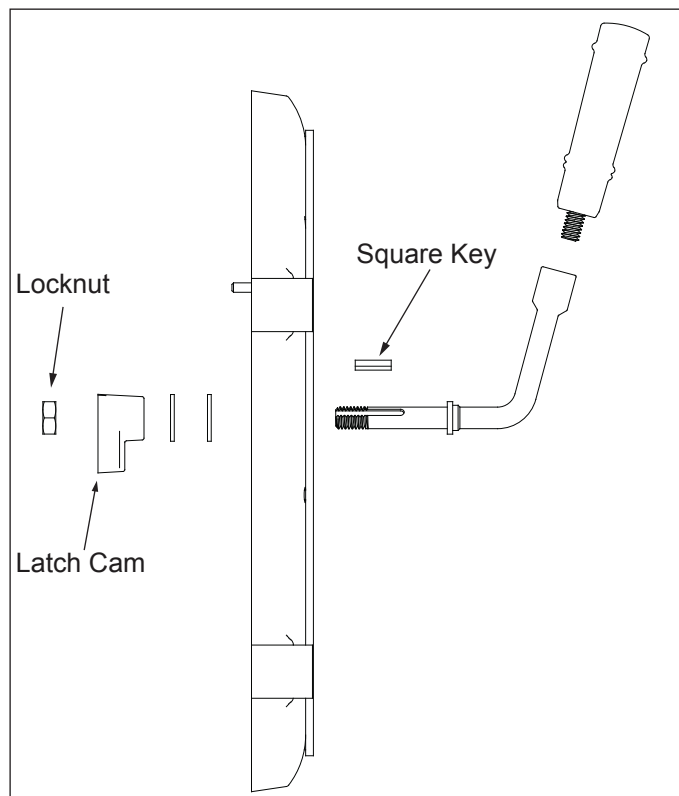

Figure 5.2
**Included in Kit:** 1 door handle, 1 key, 2 washers, 1 latch cam, 1 locknut. See Figure 5.2